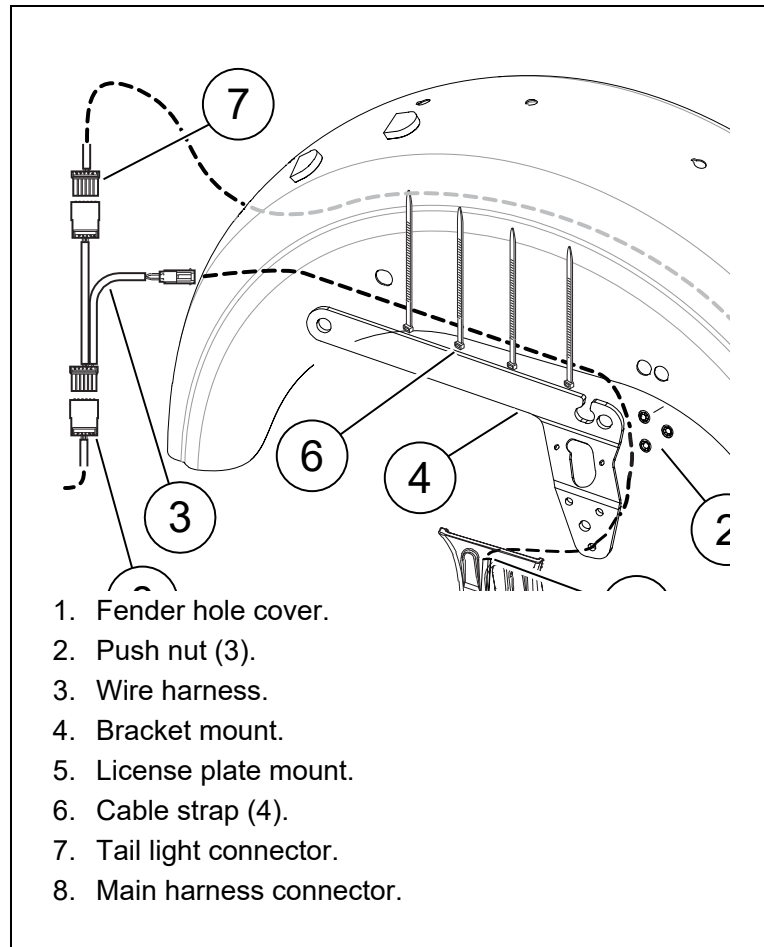
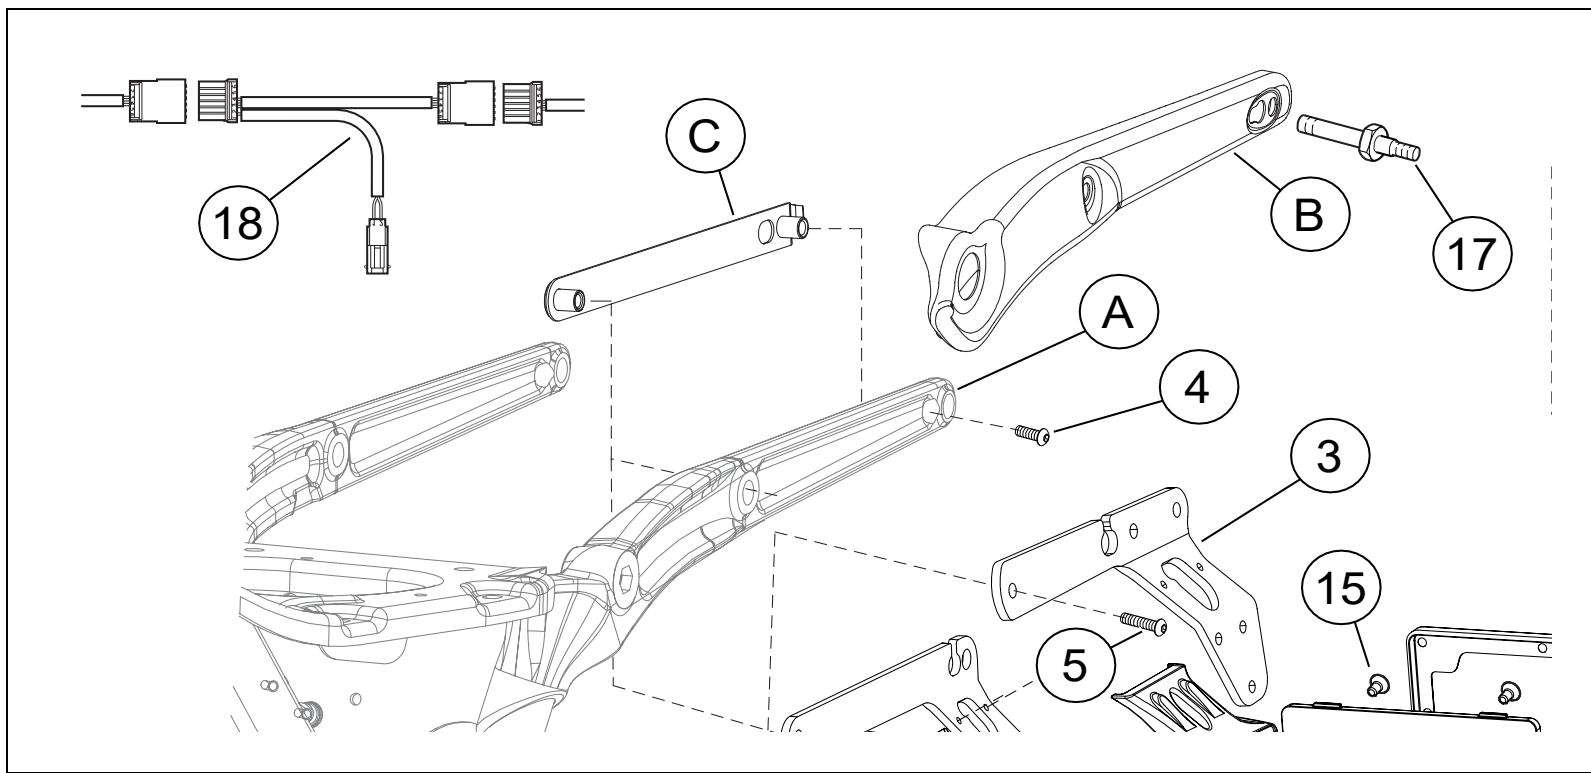

Figure 1. Wire Harness Routing and Fender Hole Cover
Figure 2. Service Parts: Side Mount License Plate Kit
See Figure 2 and Table 1.
2. See Figure 1. Install the fender hole cover (1), and attach to the fender with push nuts (2).
3. See Figure 2. Install the light (9) to the license plate mount (11) using screws (8).
4. Remove the left turn signal per service manual instructions. Remove the existing mounting bolt and replace with the **new** mounting bolt (17) from the kit.
5. Remove the frame rail cover mounting screws from the left side of the motorcycle. Remove the frame rail cover (B) and mounting bracket (C).
6. See Figure 2. **Dyna Models: Sportster Models:**
- a. Slide the mount bracket (1) between the fender and frame rail and the mounting bracket (C) behind the fender.
- b. Install the spacer (2) around the front hole in the license plate bracket (1).
- c. Install the frame rail cover (B) and the original equipment (OE) screws removed earlier. Leave the screws loose so the license plate wiring can be installed.
- d. Position the mount bracket (3) between the fender and frame rail.
- e. Install the frame rail cover (B) and the **new** screws (4 and 5) from the kit, using the longer screw in the front. Leave the screws loose so the license plate wiring can be installed.
7. **ALL Models:** See Figure 1. Connect the kit wiring harness (3) to the rear fender connectors (7, 8) for the tail lights. Route the license light wire between the mount bracket (4) and the license plate mount (5). Pass the wires through the hole in the mount bracket.
8. See Figure 2. Assemble the license plate mount (11) to the mount bracket with 9.5 mm ( $\frac{3}{8}$  in) long screws (7). Tighten to 10.8–13.5 N·m (8–10 ft-lbs).
9. See Figure 1. Route the wire harness along the underside of the mount bracket (4) and use four cable ties to attach the wires to the mount bracket. Connect the light wires to the harness (3).
10. See Figure 2. Install the license plate to the license plate mount (11) and install the frame cover (14) using set screws (10).